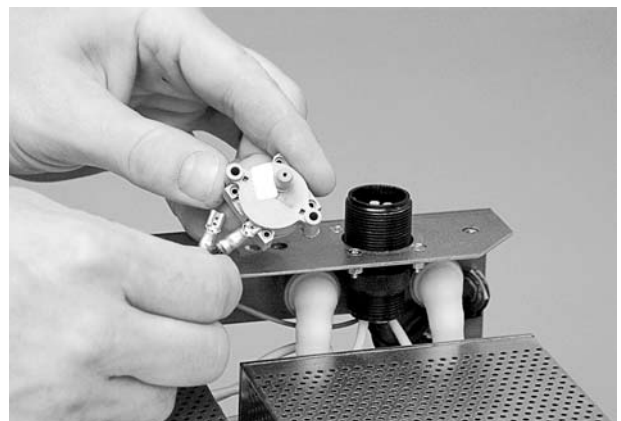

Figure 4-14 Pressure Switch Wires
- See Figure 4-14. Disconnect the the two wires and connect them to the new pressure switch in the same orientation.